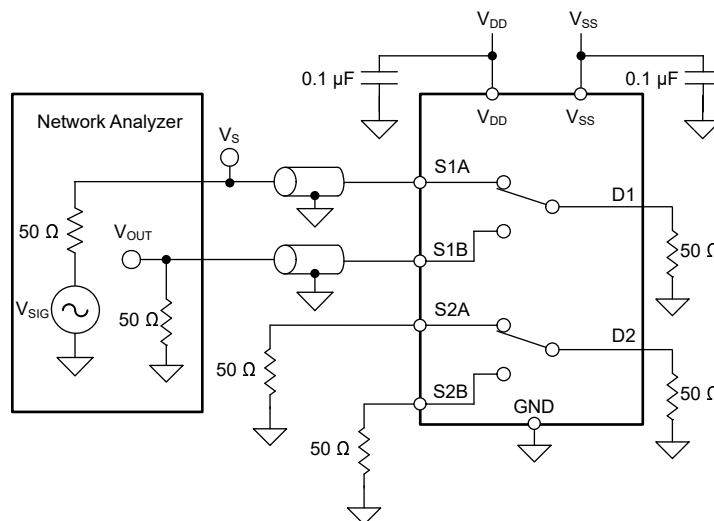

Figure 7-15. Intra-Channel Crosstalk Measurement Setup
1. Intra-channel crosstalk ($X_{TALK(INTRA)}$): the voltage at the source pin (S_x) of an off-switch input, when a 1- V_{RMS} signal is applied at the source pin of an on-switch input in the same channel, as shown in Figure 7-15.